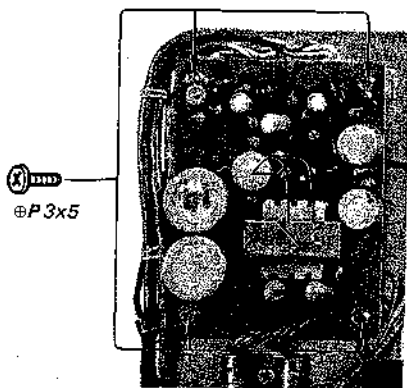

Fig. 2-14
1. Remove the four screws shown in Fig. 2-14.